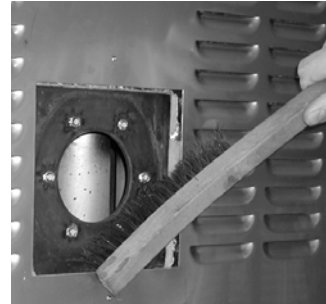

Figure 3 Cleaning the Boiler Surface
- 7) Remove any excess scale and loose material around the inside and outside of the inspection opening using a scraper and a wire brush (See Figure 3). **DO NOT USE ANY POWERED GRINDING METHOD TO CLEAN THESE SURFACES, WHICH MIGHT REDUCE THE ACTUAL BOILER WALL THICKNESS.**